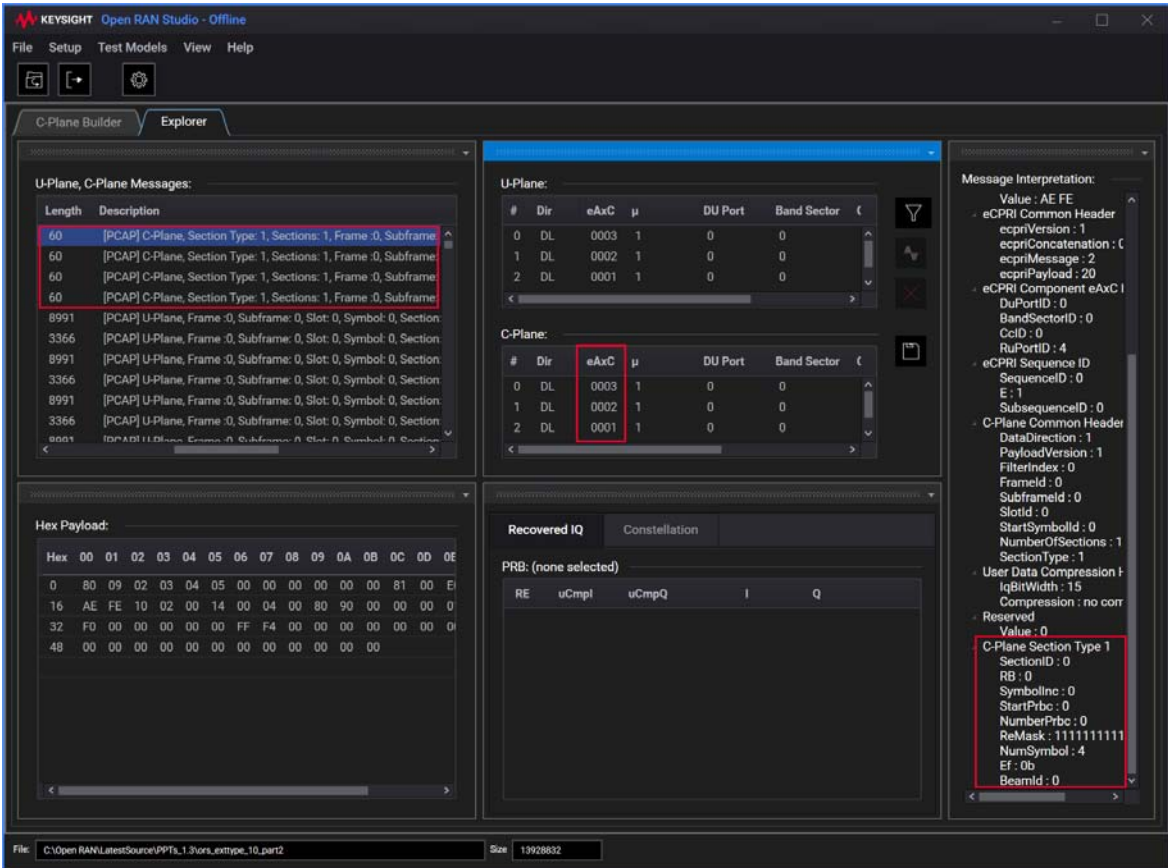

Figure 367 Viewing PCAP file without Ext Type 10 and Beam / Ue ID
- 3 At this stage, if you exit the “C/U Plane Builder Configuration Tool” and generate the Stimulus file, the PCAP file contents loaded in the Explorer tab are displayed in Figure 367.